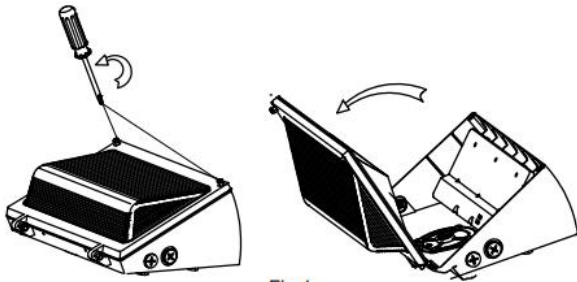

Fig.1
1. Loosen screws and remove the front case set carefully from the back plate (Fig.1)